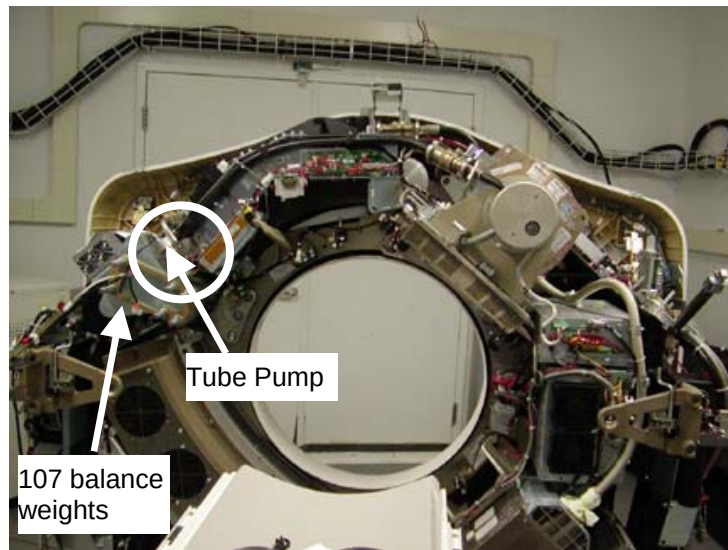

Figure 1 Gantry initial positioning
3. Rotate the gantry so that the pump location is on the left (TGPU side) as shown in Figure 1 and disable gantry power using the Service Switch Panel.